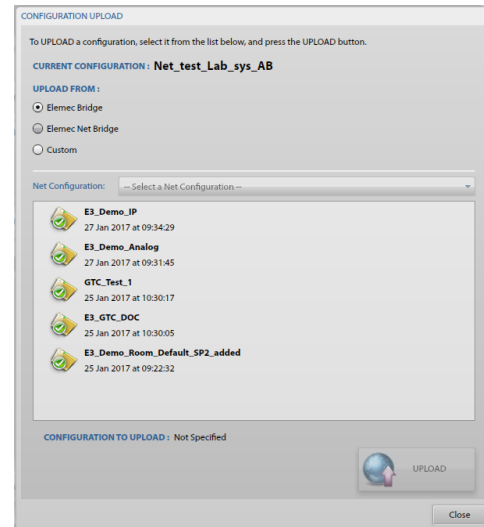

Figure 42. Configuration Upload
1. Click **UPLOAD NEW CONFIGURATION** to open the **CONFIGURATION UPLOAD** screen (see Figure 42).